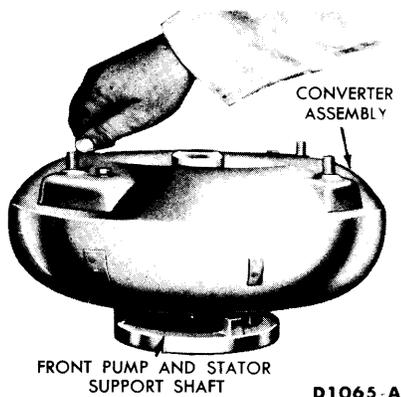

FIG. 2—Stator to Impeller Interference Check
1. Mount the dial indicator support in a front pump bolt hole. Mount a dial indicator on the support so that the contact rests on the end of the input shaft (Fig. 2).
2. Use a large screwdriver to pry the front of the clutch drum toward the rear of the transmission (Fig. 2). Set the dial indicator to zero.
3. Remove the screwdriver and pry the units toward the front of the transmission by inserting a screwdriver between the large internal gear and the transmission case (Fig. 2). Note the indicator reading. End play should be 0.010 to 0.029 inch. (Minimum end play is preferred).
1. Position a front pump assembly on a bench with the spline end of the stator shaft pointing up (Fig. 2).